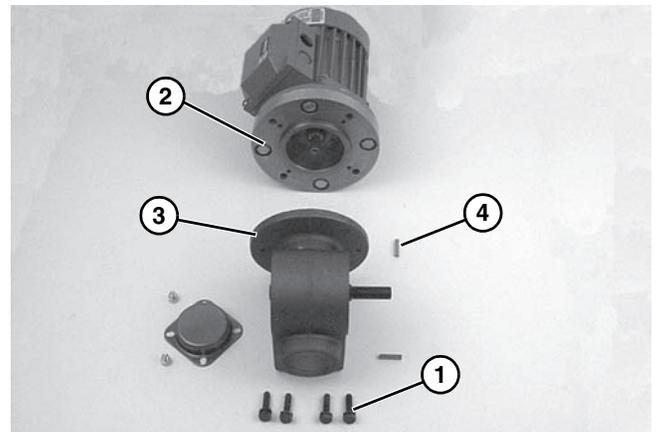

Figure 38
- With key (**Figure 38, item 4**) in keyway, slide motor (**Figure 38, item 2**) and gear reducer (**Figure 38, item 3**) together. Install bolts (**Figure 38, item 1**) and tighten.